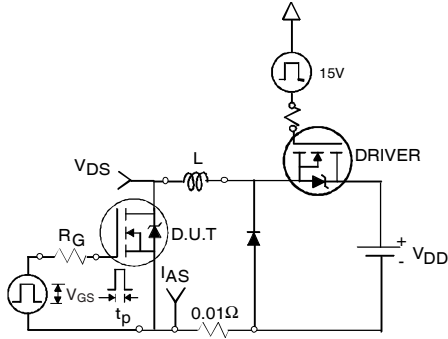

Fig 12a. Unclamped Inductive Test Circuit
- ③ Pulse width $\leq 1.0\text{ms}$; duty cycle $\leq 2\%$.
- ④ $C_{oss\text{ eff.}}$ is a fixed capacitance that gives the same charging time as C_{oss} while V_{DS} is rising from 0 to 80% V_{DSS} .
- ⑤ Limited by T_{Jmax} , see Fig.12a, 12b, 15, 16 for typical repetitive avalanche performance.
- ⑥ This value determined from sample failure population. 100% tested to this value in production.
- ⑦ When mounted on 1 inch square copper board.
- ⑧ When mounted on FR-4 board using minimum recommended footprint.
3. Equation below based on circuit and waveforms shown in Figures 12a, 12b.